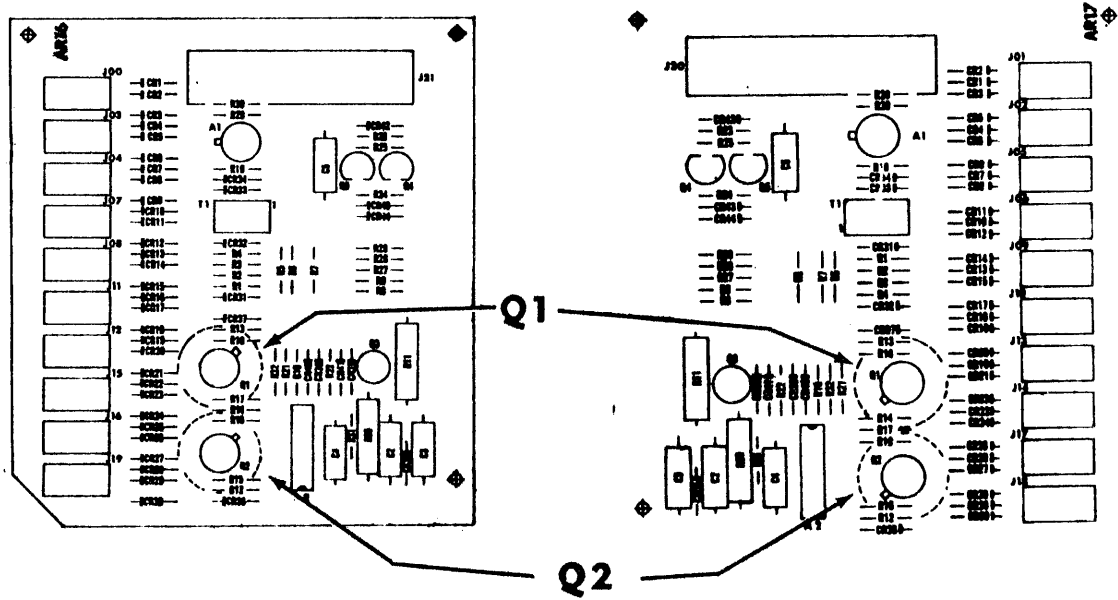
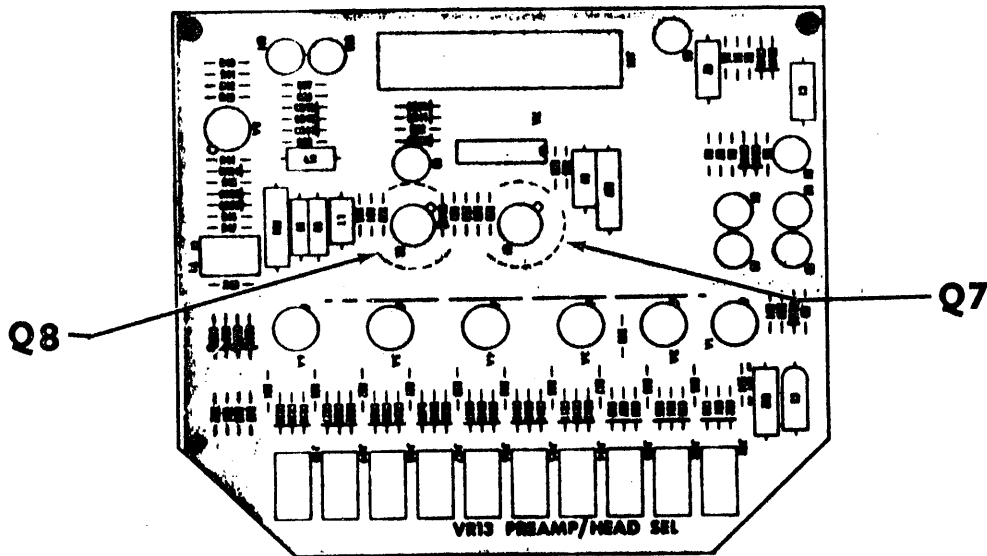

Figure 1. Locations of Transistors Q1, Q2 - 114,166,212,214
Figure 2. Locations of Transistors Q7, Q8 - 213,215,815
8. Utilize an exerciser or the controller in-line diagnostic (50) to perform a read operation on Head 00, any cylinder.
14. Refer to Figure 1 and Figure 2 for the location of the write power amps on the left and right preamps. To monitor their voltage level, place the scope probe right on the exterior "can" of the transistors.